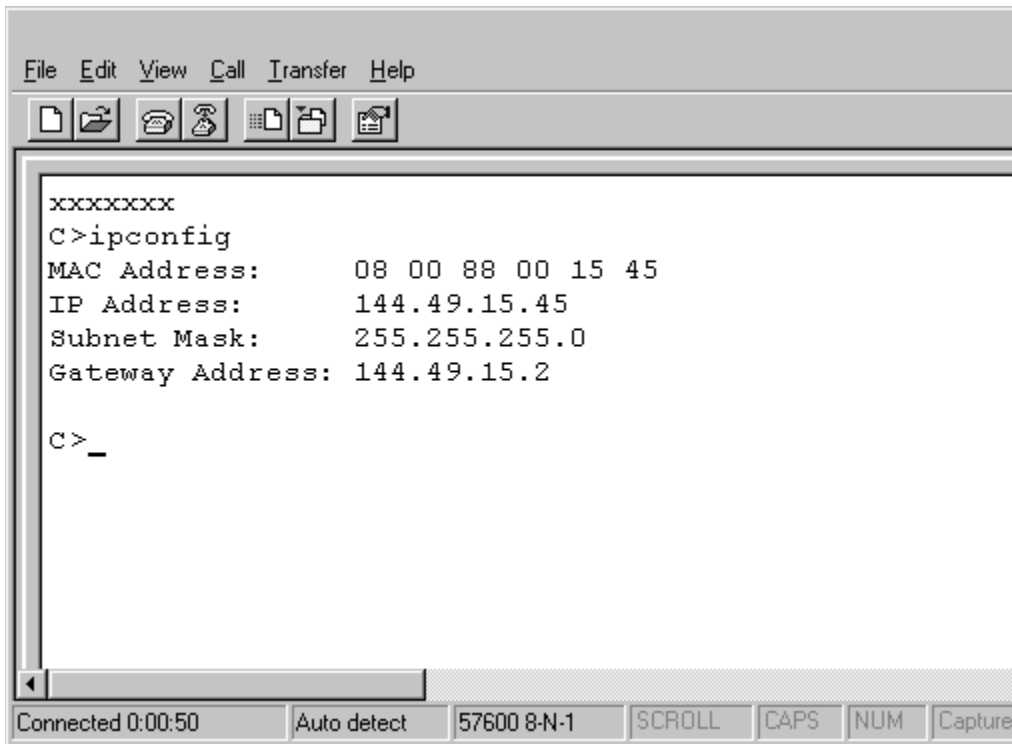

Figure 2-5: HyperTerminal dialog box
10. At the C> prompt, type `ipconfig` and press **Enter**. The **HyperTerminal** window displays, as shown in Figure 2-5.